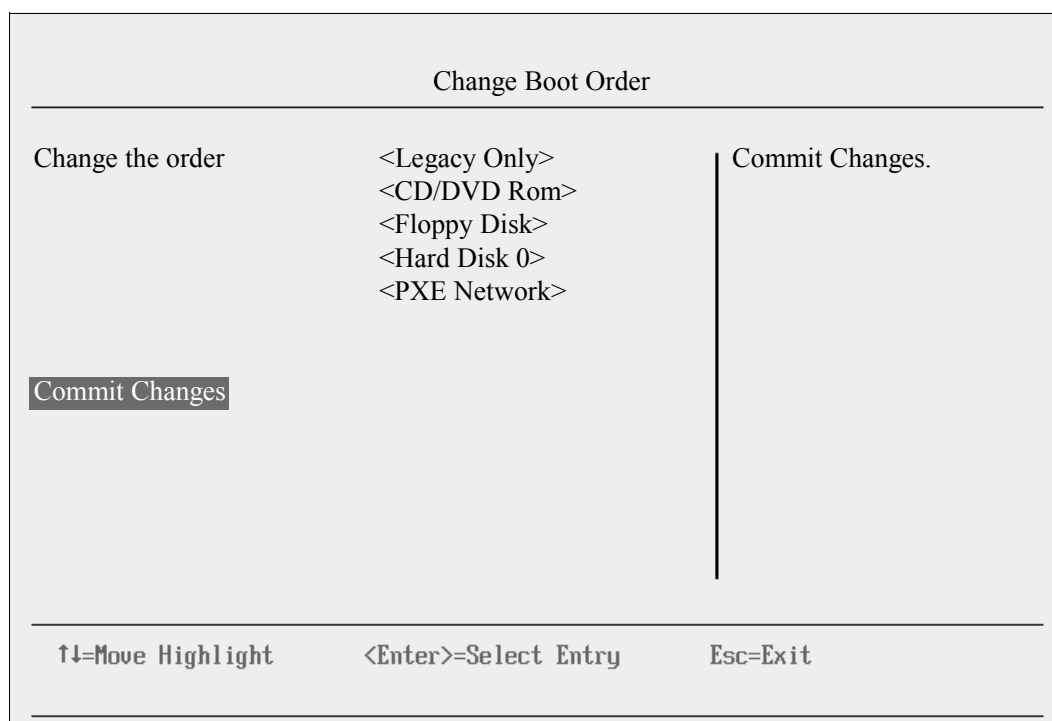

Figure 9-103 Change Boot Order panel
6. In the Change Boot Order panel (Figure 9-103), move **Legacy Only** to the top by using the + and – keys. Then press Enter.